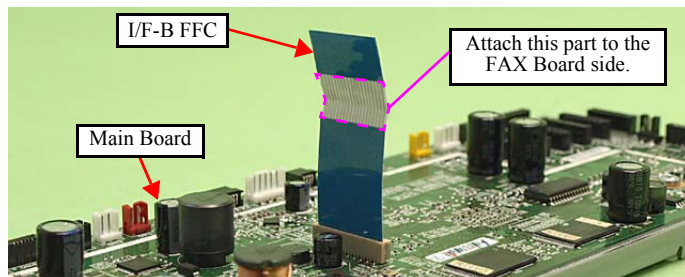

Figure 4-45. Connecting the I/F-B FFC
- When connecting the I/F-B FFC to the Main Board, connect it as shown in Fig. 4-45.